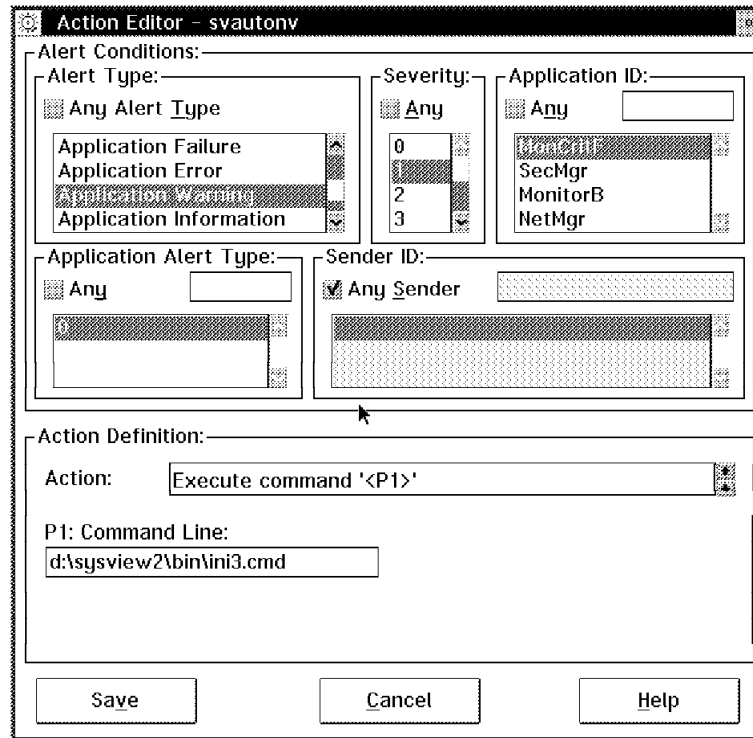

Figure 304. Action Editor
- ALACTION - Contains the actions to be executed once the alarm criteria is reached. The description of the Action editor is shown in Figure 304 on page 183.